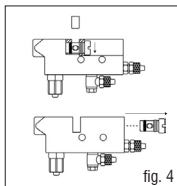

fig. 4
- 8) Remove the plastic cover of the compass and with a screwdriver, unscrew and remove the compass from the valve body. (see Figure 4)